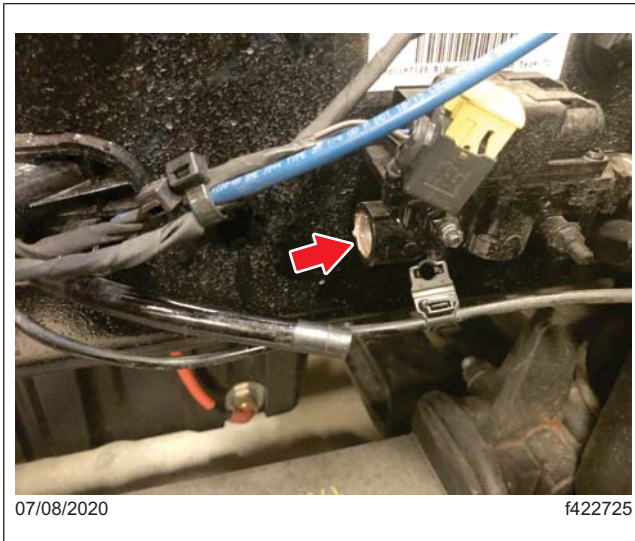

Fig. 7, Disconnecting the Quick-Connect Fitting
5. Use a 7/8-inch wrench to remove the quick-connect fitting from the modulator. See Fig. 7.